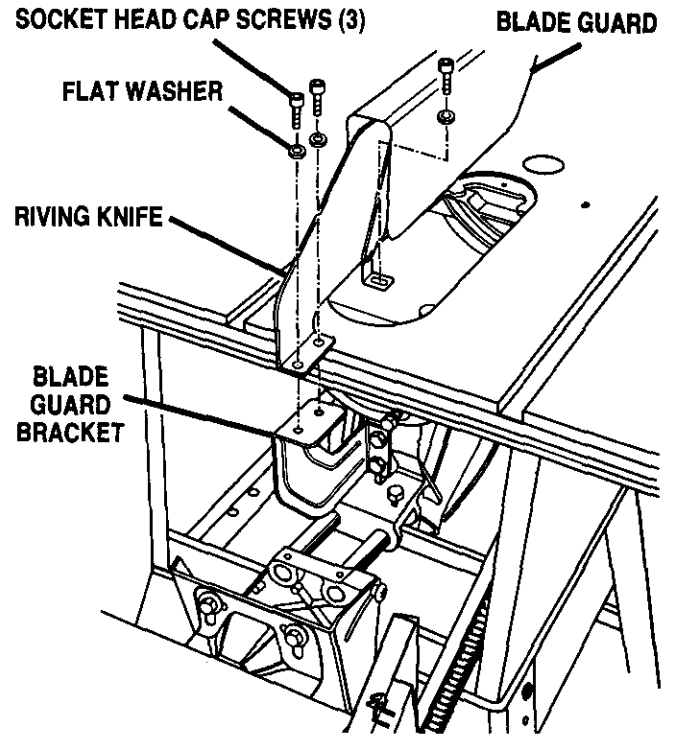

Fig. 30
- Put the blade guard assembly in place on the tabletop, aligning the screwholes in the riving knife to the holes in the blade guard bracket. Align the hole in the front of the riving knife base with screw hole in the saw table. See Figure 30.